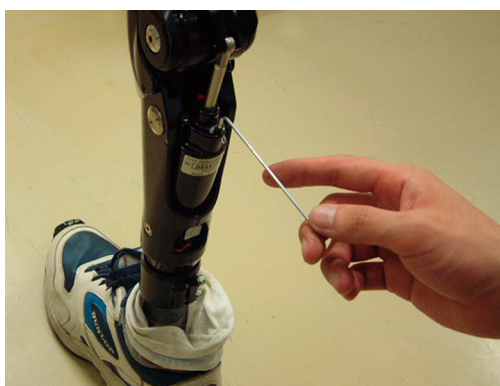

Fig. 16 Tightening Procedure of the Cushion Valve
- 1 As shown in Fig. 16, turn the cushion valve with a hex wrench (2 mm).